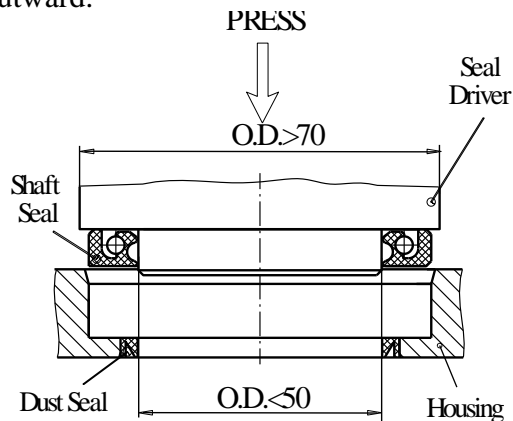

Fig.9
1. Place shaft seal in housing and firmly push with Seal driver (see Fig.9).